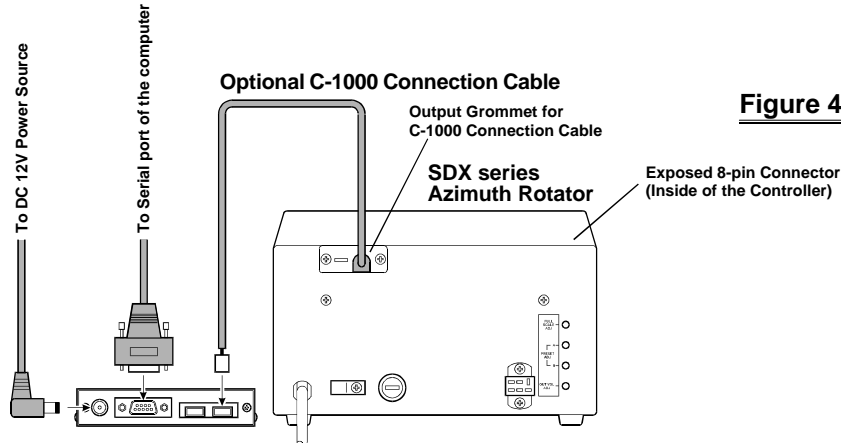

Figure 4
- ❑ Route the 5-pin connector of the **C-1000** Connection cable through out the rubber grommet on the rear panel of the controller, and connect it to the **AZ** connector on the rear panel of the **GS-232A** (Figure 4).